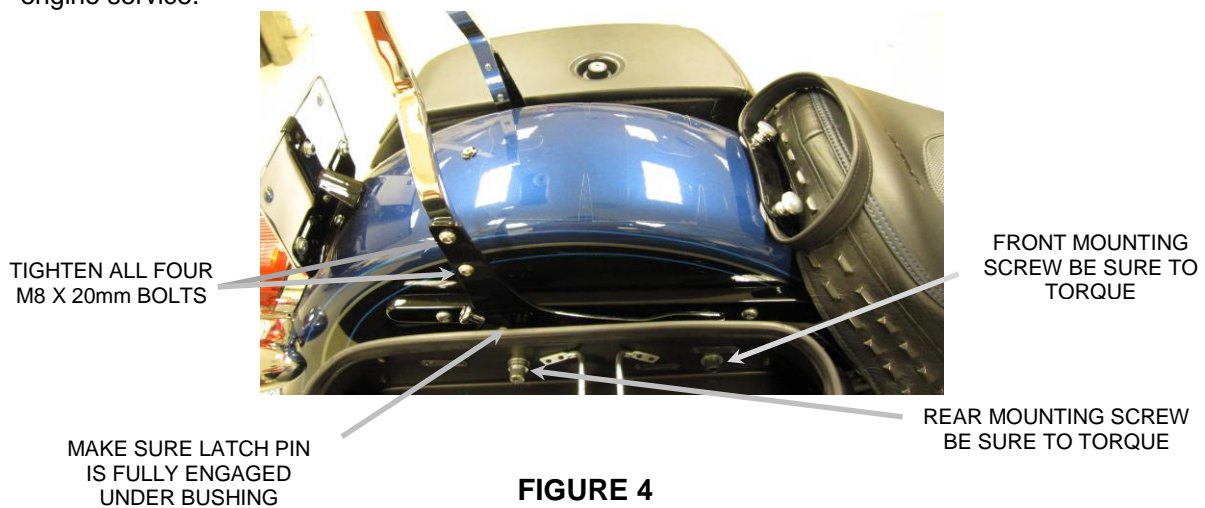

FIGURE 4
6. Pull backward on both detachable latch knobs and then push downward on the backrest to allow the backrest to sit completely on the rear mounting bushings. Then release the detachable latch knob to fully engage the latch pin underneath the mounting kit bushing. See **Figure 4**.
7. Always check to make sure both detachable latch pins are fully engaged on the bottom of the mounting kit bushing. Failure to fully engage the detachable latch pin could cause the backrest to come loose while riding. See **Figure 4**.
8. Pull backward on the top of the sissy bar and then tighten all four M8 X 20mm bolts. See **Figure 4**.
9. Tighten all (4) of the 3/8-16 X 3.0" long Socket head cap screws attaching the saddlebags and bushings to the fender rails. Tighten to factory torque specifications, see **Figure 4**.